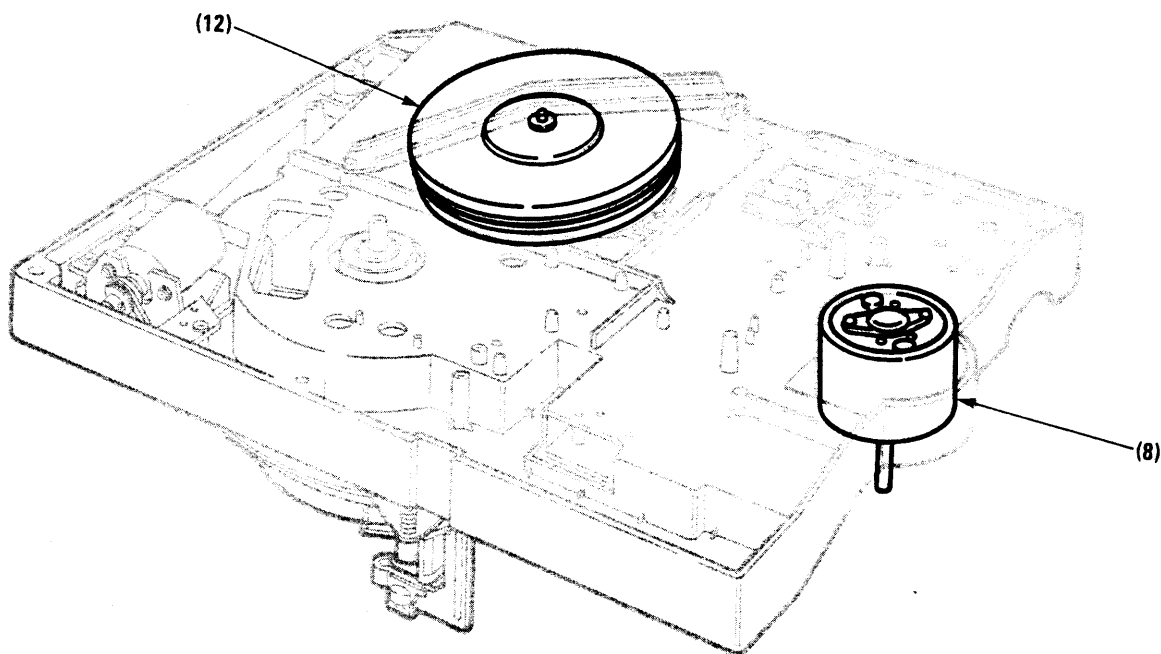

Fig. 3-2-4
If the take-up reel base rotation sensor detects that the reel base has stopped during any of the PLAY, REC, F-SEARCH, or R-SEARCH modes, the capstan motor (12), the reel motor (8), and the video head will stop. (See Fig. 3-2-4.)